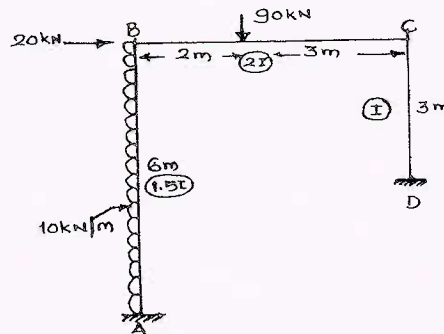

Fig.Q2
- 2 Analyse the given frame by slope deflection method. Draw SFD, BMD and elastic curve. Refer Fig.Q2.